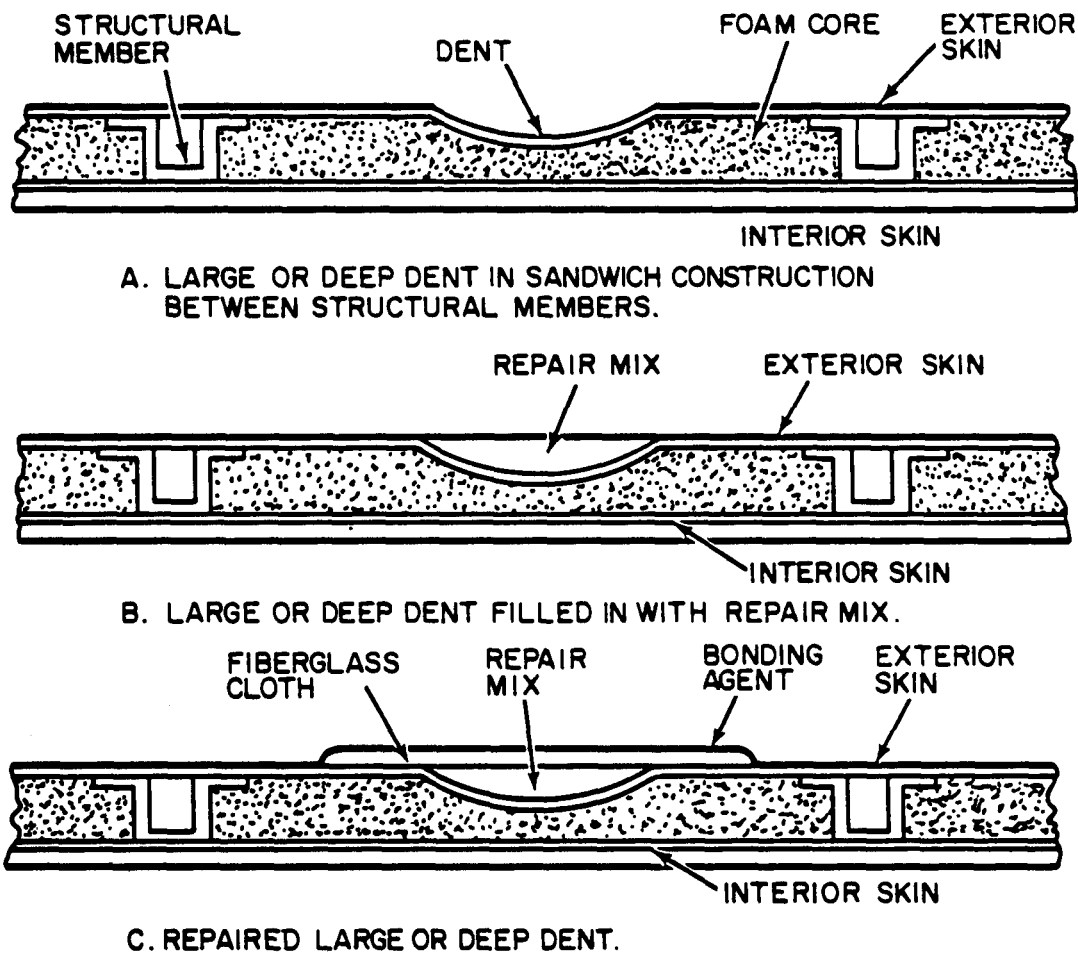

Figure 4-3. Shelter Wall Repair of Large Dent.
Repair. (Figure 4-3)
- (1) Perform the procedures contained in paragraph 4-8, steps (1), (2), and (3) using Figure 4-3, A and B.
- (2) Cut a piece of fiberglass cloth that will cover the restored area and extend approximately two inches around the filled-in dent.
- (3) Apply a liberal coating of mixed adhesive (paragraph 4-7.b.(4)) over the filled-in dent extending approximately two inches around the dent.
- (4) Place the fiberglass cloth (C, Figure 4-3) over the coating of mixed adhesive and press lightly.